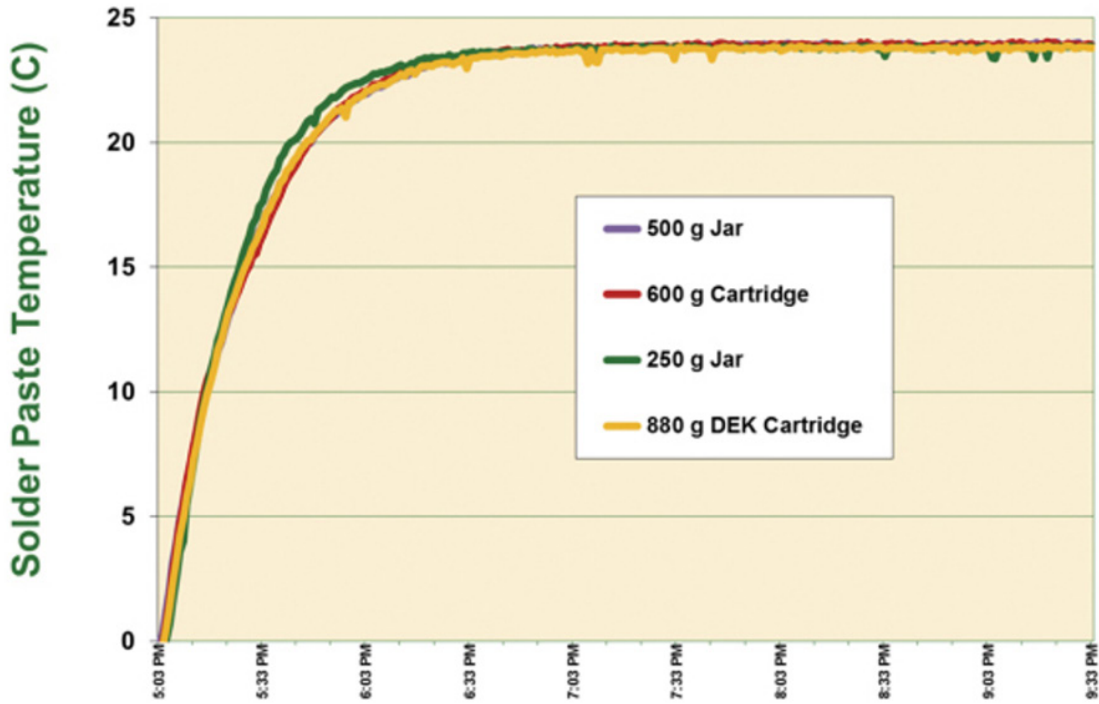

Figure 2. No clean SAC305 solder paste warming time.
- **Natural temperature adjustment.** Warm solder paste to ambient temperature naturally before use. Avoid placing paste near heat sources or opening the container prematurely, as moisture condensation can degrade the paste's performance (Figure 2).